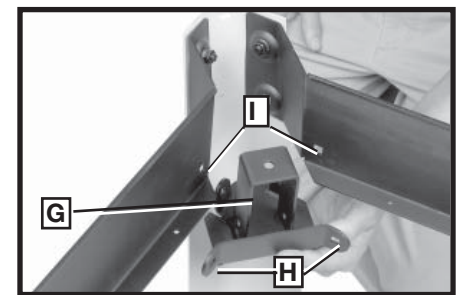
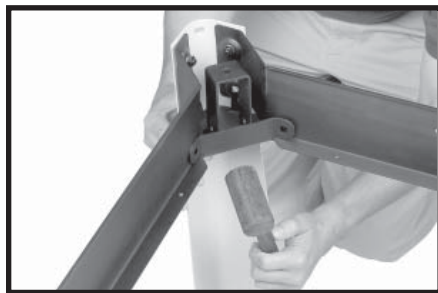

Fig. 10
Fig. 11
6. Take corner bracket (G) Fig. 10 with the closed end and align holes (H) with holes (I) in the leg supports. **NOTE: MAKE SURE THE CLOSED-END BRACKETS (G) ARE ATTACHED TO THE LONG LEG SUPPORT WHICH HAS THE THREE HOLES IN THE MIDDLE, AS SHOWN IN FIG.13.** It may be necessary to take a soft hammer (or a regular hammer and block of wood) to tap in the corner bracket to align holes, as in Fig. 11.